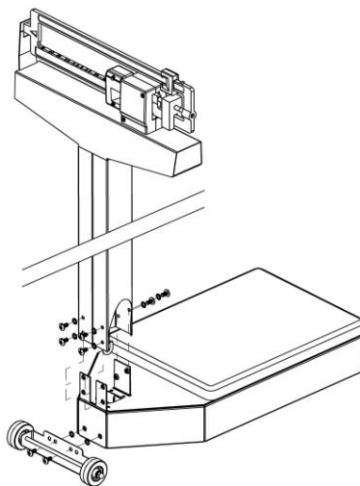

Fig. 1
1. Fix the column to the base using the 4 screws & washers in back and 2 screws & washers in front supplied. Fix the wheels assembly to the base using the 2 screws & washers. (See Fig. 1)